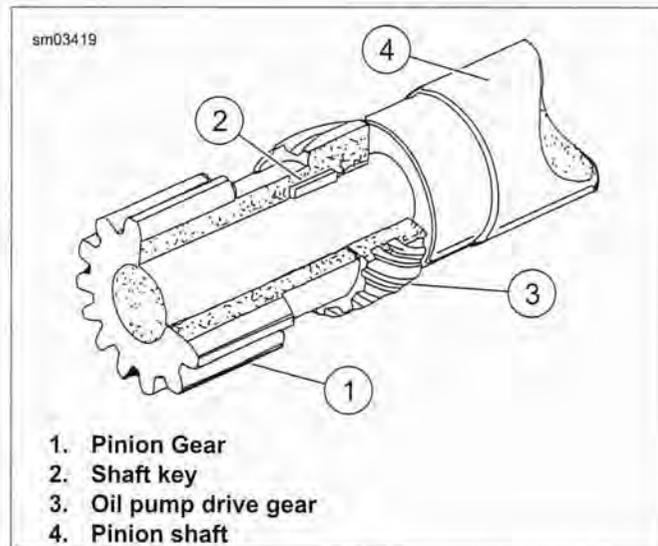

**Figure 3-155. Gearcase Cover and Cam Gears**
- See Figure 3-155. Make sure shaft key (1) is installed on flywheel pinion shaft. Install oil pump drive gear (10) and pinion gear (9) on pinion shaft.
- See Figure 3-155. Clean threads on pinion shaft and nut (8). Apply several drops of LOCTITE THREADLOCKER 262 (red) to threads of nut.
6. See Figure 3-155. Install rear exhaust cam (4). Rotate cam until timing mark (a slot) points exactly at centerline of rear intake cam bushing.
7. Install front intake cam (6). Rotate cam until slotted timing mark points exactly at centerline of rear intake cam bushing.
8. See Figure 3-155. Install rear intake cam (5). As you install this cam, rotate it so that the three timing marks (dots) line up exactly with timing marks on the pinion gear, rear exhaust cam and front intake cam.
9. Install front exhaust cam (7). As you install this cam, rotate it so that its timing mark (a dot) lines up with timing mark (dot) of front intake cam.
10. See Figure 3-155. Install a **new** dry gasket (3) on gearcase cover (2).